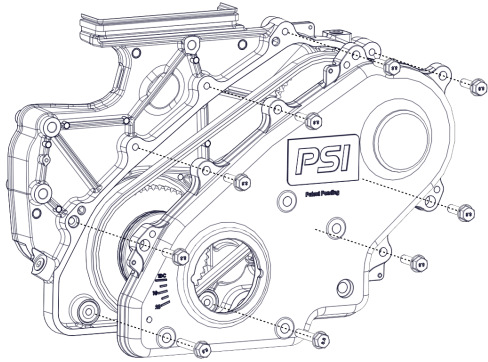

Figure 1.
5. Remove the nine bolts from the front PTO housing (Figure 1).